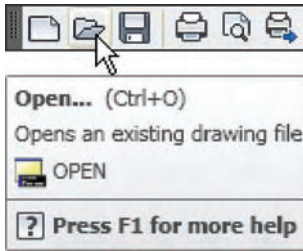
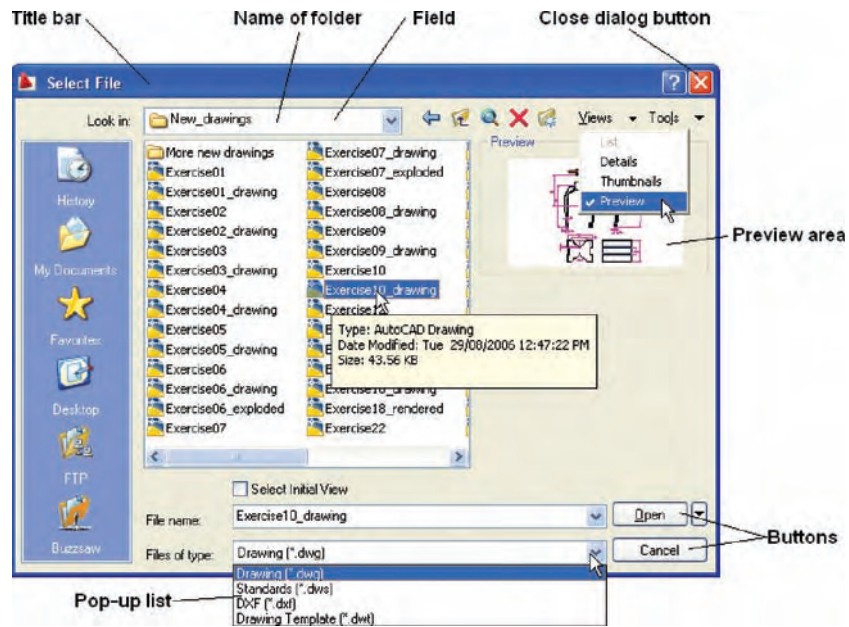
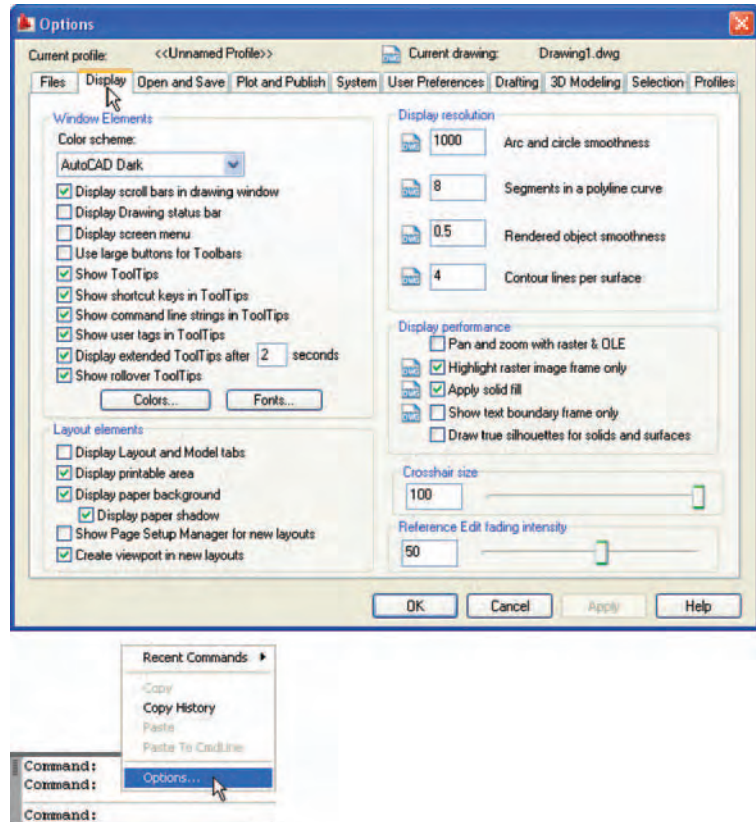

Fig. 1.14 Opening the **Select File** dialog from the **Open** icon in the **Standard Annotation** toolbar
Fig. 1.15 The **Select File** dialog
Fig. 1.16 Part of the Options dialog
Examples of dialogs are shown in Figs 1.15 and 1.16. The first example is taken from the **Select File** dialog (Fig. 1.15), opened with a *click* on **Open...** in the **Quick Access Toolbar** (Fig. 1.14). The second example shows part of the **Options** dialog (Fig. 1.16) in which many settings can be made to allow operators the choice of their methods of constructing drawings. The **Options** dialog can be opened with a *click* on **Options...** in the *right-click* dialog opened in the command palette.
- **Preview area**: available in some dialogs – shows a miniature of the selected drawing or other feature, partly shown in Fig. 1.15.